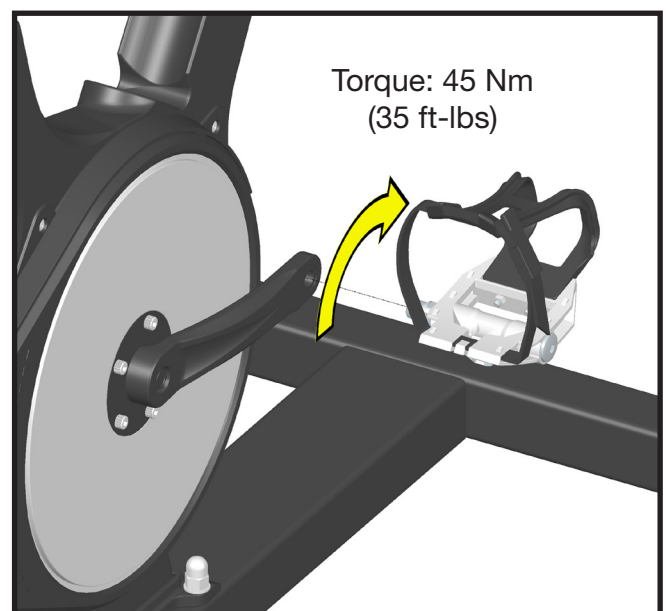

Figure 10. Installing the Right Pedal, Turn Clockwise
- Right Pedal - Thread the right pedal (marked R) into the right side of the right crank arm by turning it clockwise, refer to Figure 10.